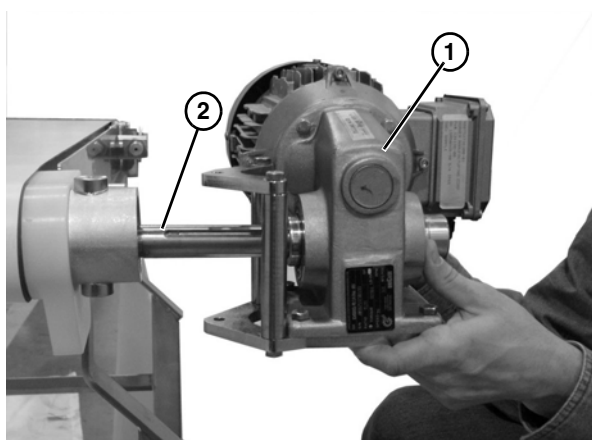

Figure 59
4. Slide the gearmotor assembly (**Figure 59, item 1**) off of the drive spindle (**Figure 59, item 2**).